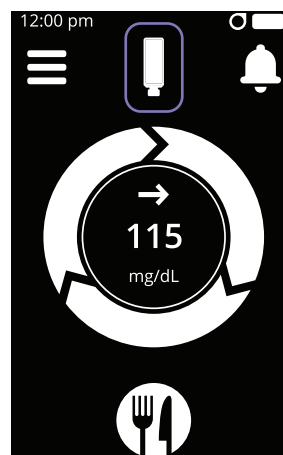

Figure 74
- d. From the **Home** screen, tap the **Cartridge** icon (see Figure 74).